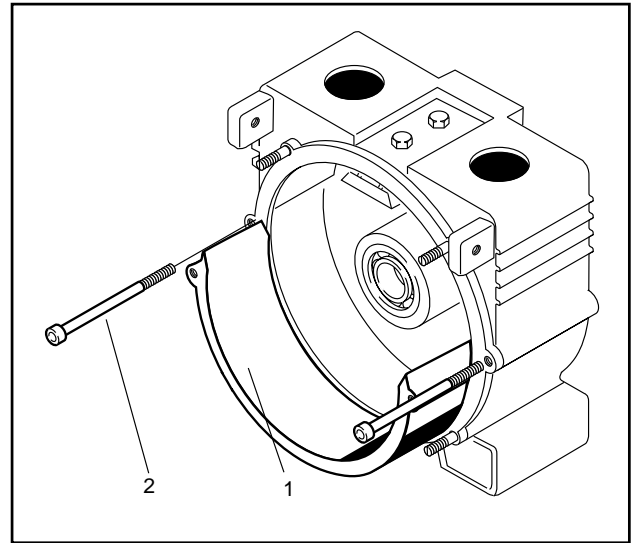

Fig. 14 1 Support
2. Unscrew both support fastening screws (part-no.1020, Fig. 8) and lift the support out of the housing (Fig. 14).